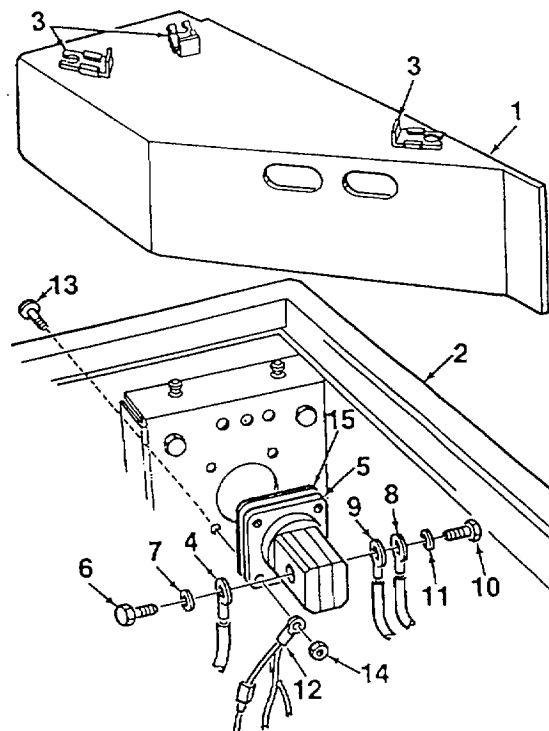

Figure 4-24. NATO Receptacle
3. Slide fuel module cover latches (3, Figure 4-24) back to disengage, and remove fuel module cover (1) from enclosure (2).
4. Remove cover latches (3) and locking screws only if replacement is required.
5. Tag negative electrical wire (4). Disconnect wire from NATO receptacle (5) by removing bolt (6) and lockwasher (7).
6. Tag positive electrical wires (8, 9). Disconnect wires from NATO receptacle (5) by removing bolt (10) and lockwasher (11).
1. Install NATO receptacle (5, Figure 4-24) and gasket (15) into fuel module using screws (13) and nuts (14). Ground electrical lug (12) is secured by the lower left hand screw and nut.
2. Connect positive electrical wires (8, 9) to NATO receptacle (5) using bolt (10) and lockwasher (11).
3. Connect negative electrical wire (4) to NATO receptacle (5) using bolt (6) and lockwasher (7).
4. If removed, install cover latches (3) and locking screws.
5. Mate fuel module cover (1) to enclosure (2). Lock in place by engaging cover latches (3).